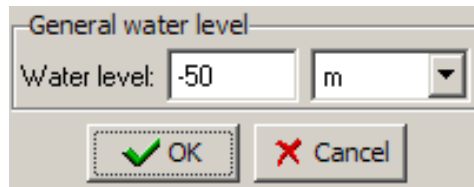

Figure 1.13 The *General water level* window
- Double click the *General water level* option. The *General water level* window will be opened (see Figure 1.13).